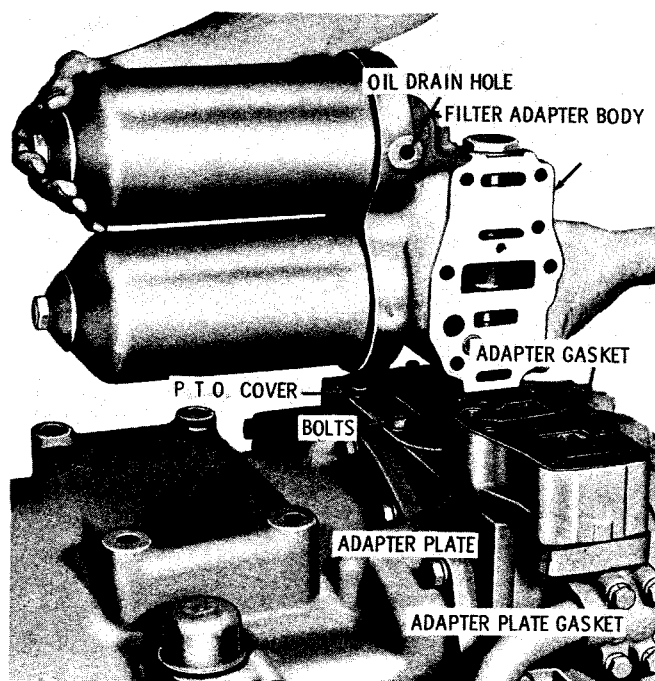

Fig. 5-1. Removing integral oil filter assembly
(2) Remove the integral oil filter drain plug from the drain hole (fig. 5-1) and let the oil drain out of the filters into a suitable container. Remove five (four if filter is reversed) long bolts, two (three if filter is reversed) short bolts and seven lockwashers from the oil filter adapter body. Remove the oil filter assembly. Refer to paragraph
(3) Remove the adapter gasket, adapter plate and adapter plate gasket. On models with reversed filter, remove six bolts 50, 51, and 52 (A, foldout 9) and four lockwashers 53. Remove adapter 55 and adapter gasket 45. Remove eight bolts (fig. 5-1) and lockwashers. Remove PTO pad cover and gasket.